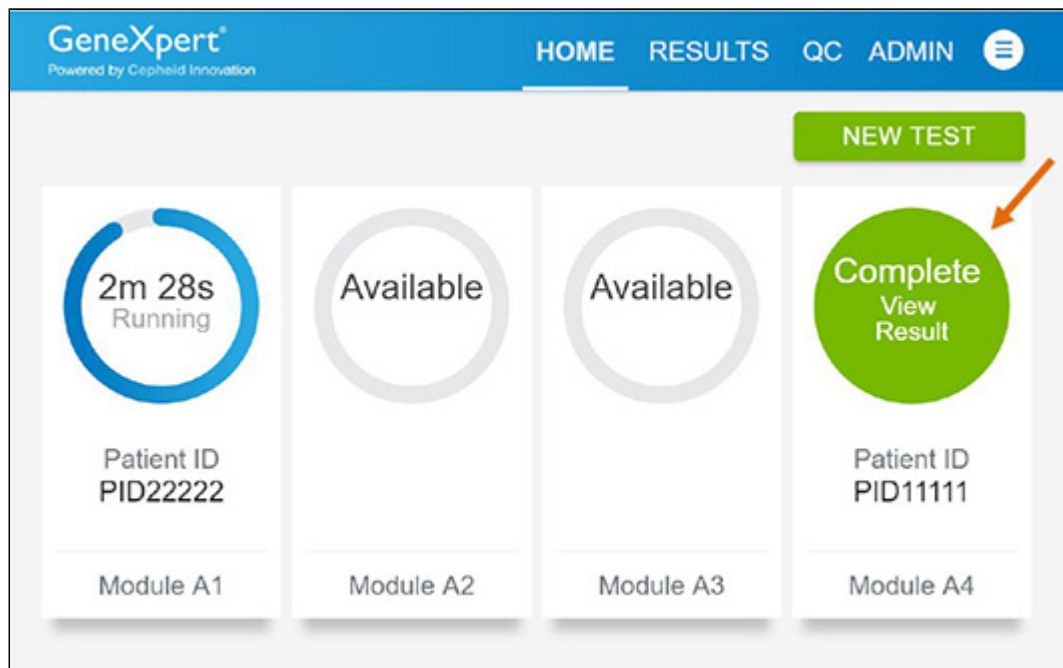

Figure 31. Home Screen with One of Two Tests Completed
- After a test has completed, the module icon text changes to **Complete** (see Figure 31). Touch **Complete View Results** to view test results.